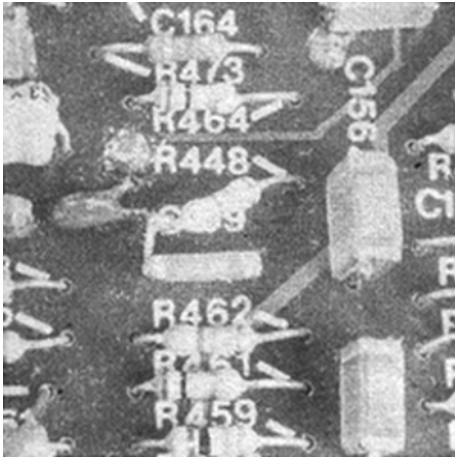

Figure 1. Connecting capacitor in series with R448. See note 5.
- 5 The setting of RV36 is sometimes affected by the position of the cello draw bar. If you have this problem, connect a 1 μ F 35V tantalum capacitor in series with R448. Lift the left-hand end of the resistor and connect the negative of the capacitor to it with the positive of the capacitor connected to the PCB as shown in Figure 1.